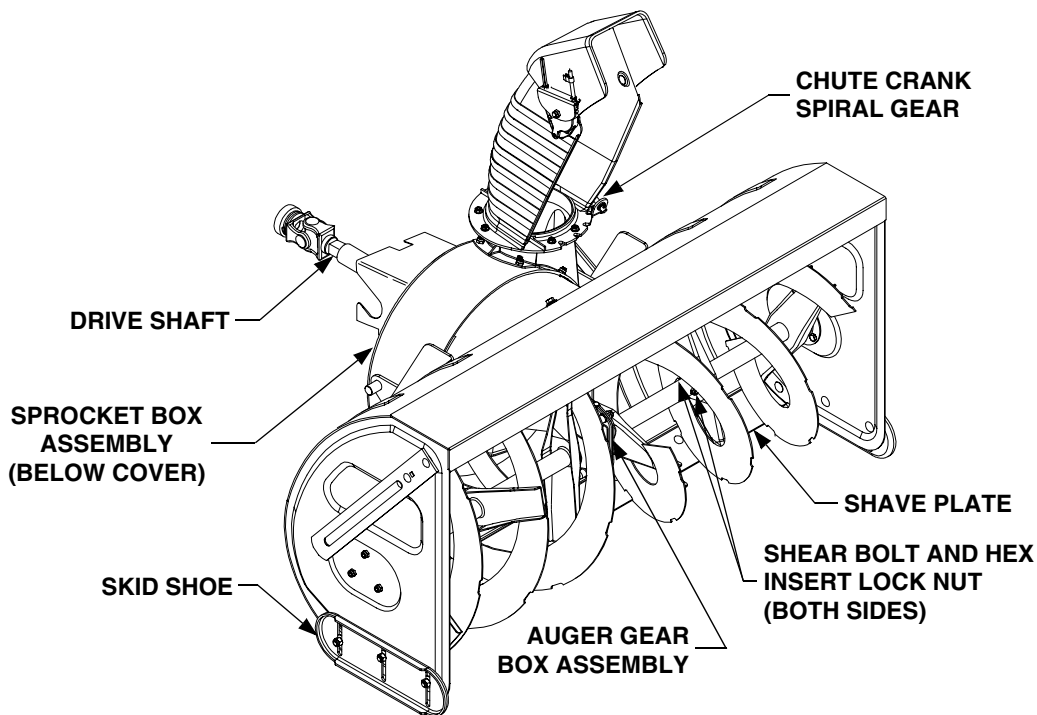

Figure 14
1. The augers are secured to the auger shaft with two shear bolts and hex insert lock nuts. Refer to Figure 14. If the auger is suddenly jammed by a foreign object or ice chunk, the bolts are designed to shear — minimizing potential damage to the gear boxes.
2. If the augers will not turn, check the bolts to see if they have sheared. Two replacement shear bolts (7) and hex insert lock nuts (8) have been provided with the snow thrower. For future use, order part number 710-0891 for replacement shear bolts and 712-0429 for the lock nuts.